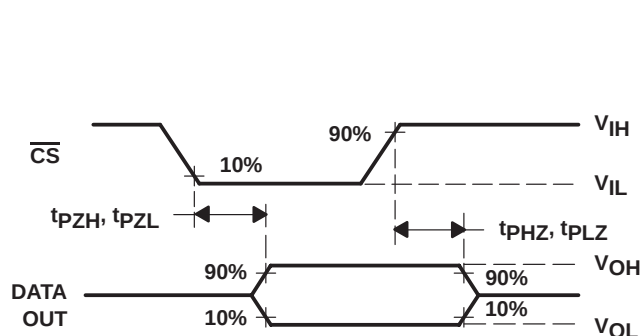

Figure 8. DATA OUT to Hi-Z Voltage Waveforms
10. I/O CLK period =  $1/(\text{I/O CLK frequency})$  (see Figure 8).
| $t_{PZH}$ , $t_{PZL}$ Enable time, $\overline{\text{CS}}$ low to DATA OUT valid (MSB driven)         | See Figure 8    |     | 0.7              | 1.3 | $\mu\text{s}$ |
| $t_{PHZ}$ , $t_{PLZ}$ Disable time, $\overline{\text{CS}}$ high to DATA OUT invalid (high impedance) | See Figure 8    |     | 70               | 150 | ns            |